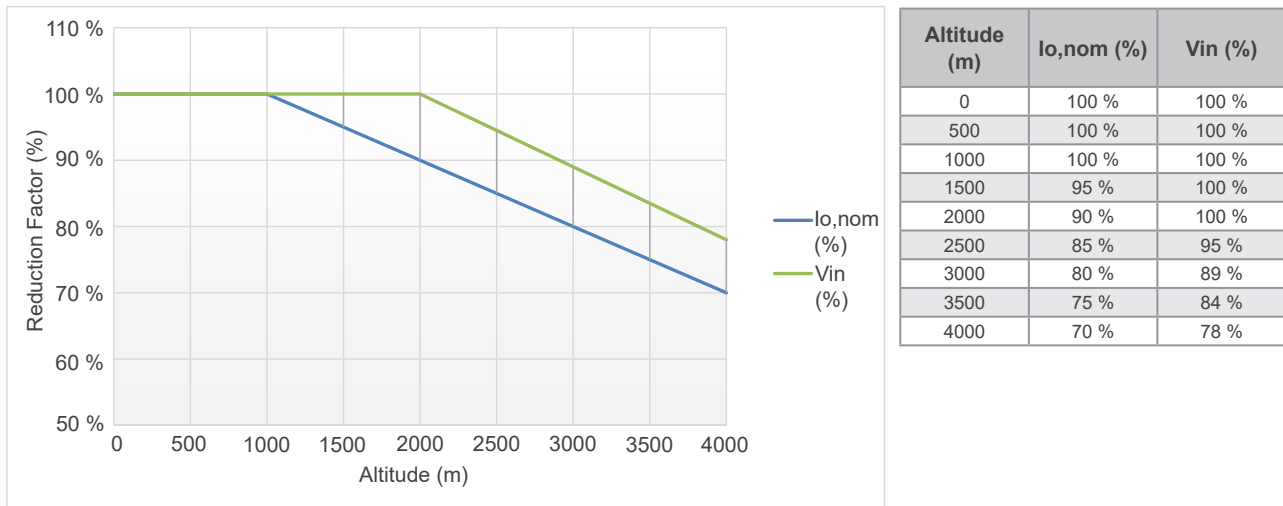

Figure 8.3: Current derating as a function of the installation altitude
Figure 8.3 on page 130 graphically illustrates the output current and supply voltage derating specifications according to the altitude.
- **FDal**: For installation altitude of 1500 m, the reduction factor is  $FD_{al} = 95\%$  (see Figure 8.3 on page 130).